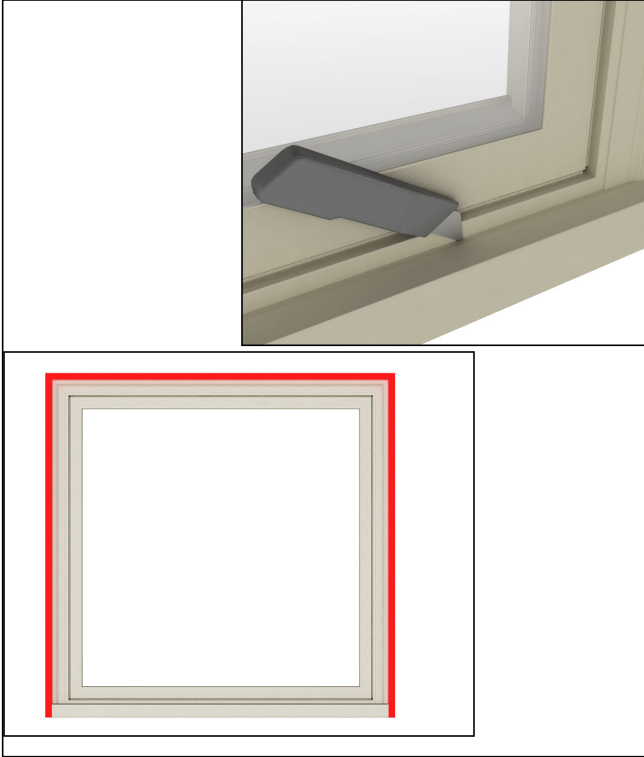

Figure 72
1. For exterior trim removal, cut silicone between each jamb, sill, and head jamb. See *figure 72*.